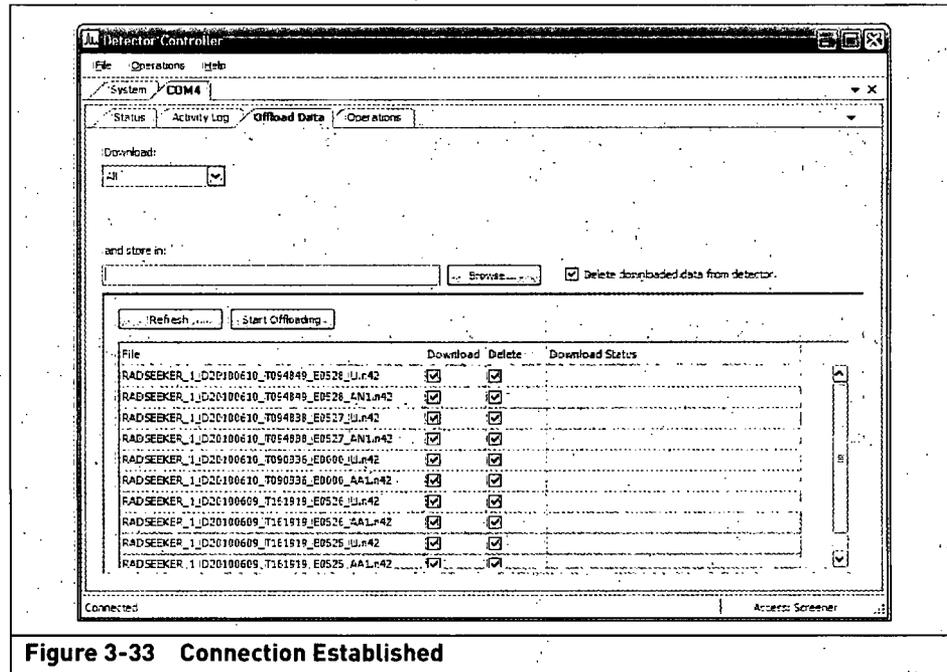

Figure 3-33 Connection Established
4. The Detector Controller application opens to the Offload Data tab which list all the current data files available for download (Figure 3-33).